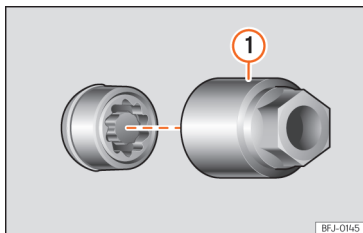

Fig. 239 Anti-theft wheel bolt with cap and adapter.
- Insert the special adapter >>> **Fig. 239** ① (vehicle tools >>> **page 309**) onto the anti-theft wheel bolt and push it on as far as it will go.